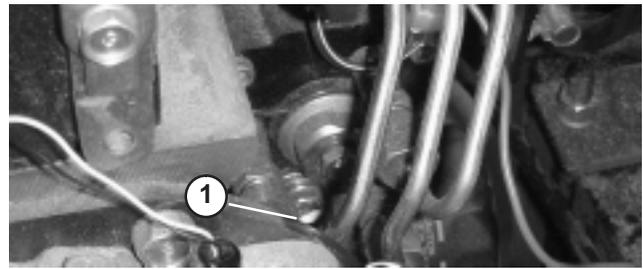

Figure 26
- Open the air bleed screw on the fuel injection pump (Fig. 26) with a 10 mm wrench.